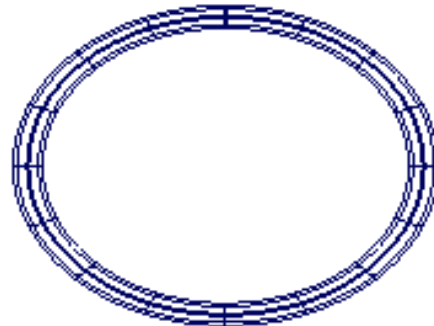

Figure 3-69 Base feature after scaling non-uniformly
2. Enter **100, 75, 100** in the promptline and press ENTER; the base surface is scaled, as shown in Figure 3-69. Alternatively, drag the left mouse button downward to scale the base surface non uniformly. In this case, you can scale it arbitrarily.